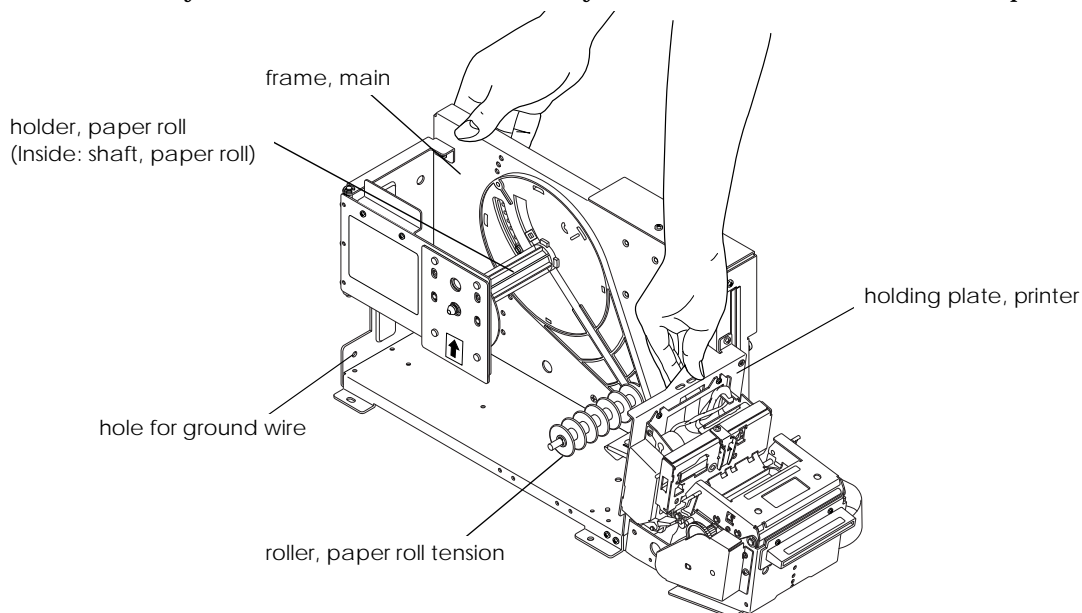

Figure 3-1 Correct way of holding the EU-T532/T542
- ❑ Make sure to ground the unit by using the hole for a ground wire. (See Figure 3-1 for the position.)